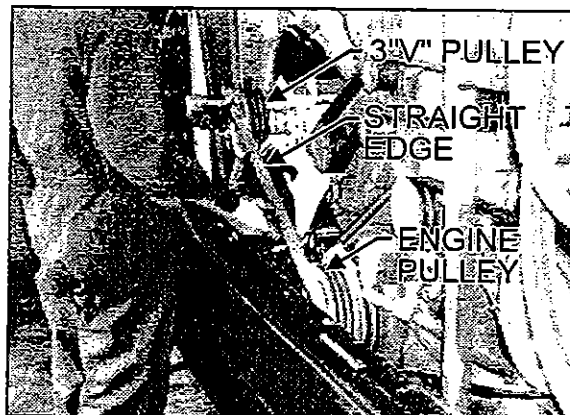

Figure 18: Pulley Alignment
3. Using a straight edge, align the 3"V" pulley on gearbox central shaft pulley with engine pulley, while taking pulleys outer edge thickness under consideration. That is, the 3 "V" pulley's outer edge is thicker than the engine pulley's outer edge (Fig. 18).